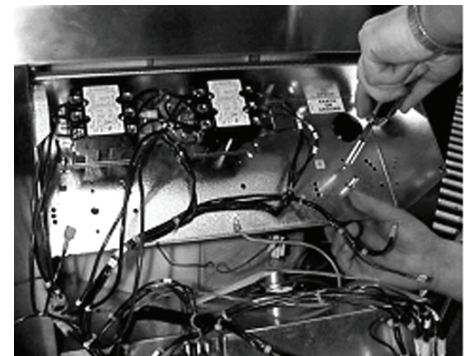

Figure 16
- D. With electrical terminals facing downward, insert shaft of high limit thermostat into 5/16" hole located on the relay panel to the right of the #1 contactor. Line up holes in thermostat housing with holes in relay panel and secure with two screws provided in the thermostat kit (see figure 16).